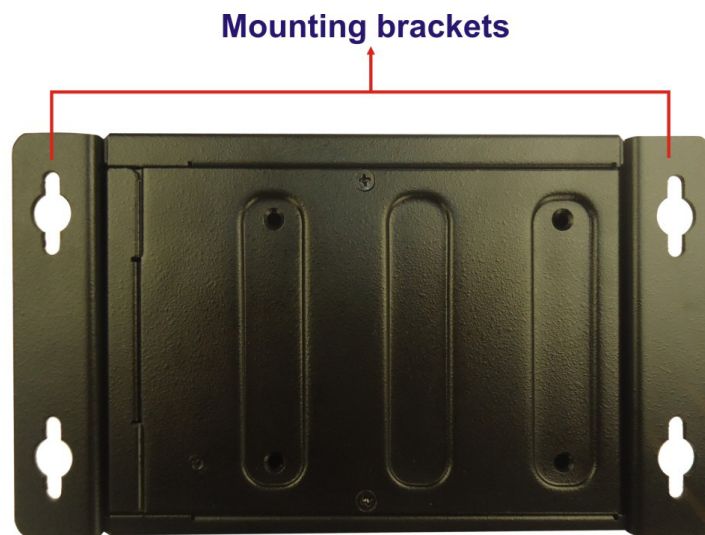

Figure 3-15: Mounting Bracket
- Step 3:** Secure the brackets to the system by inserting two retention screws into each bracket as illustrated in **Figure 3-15**.